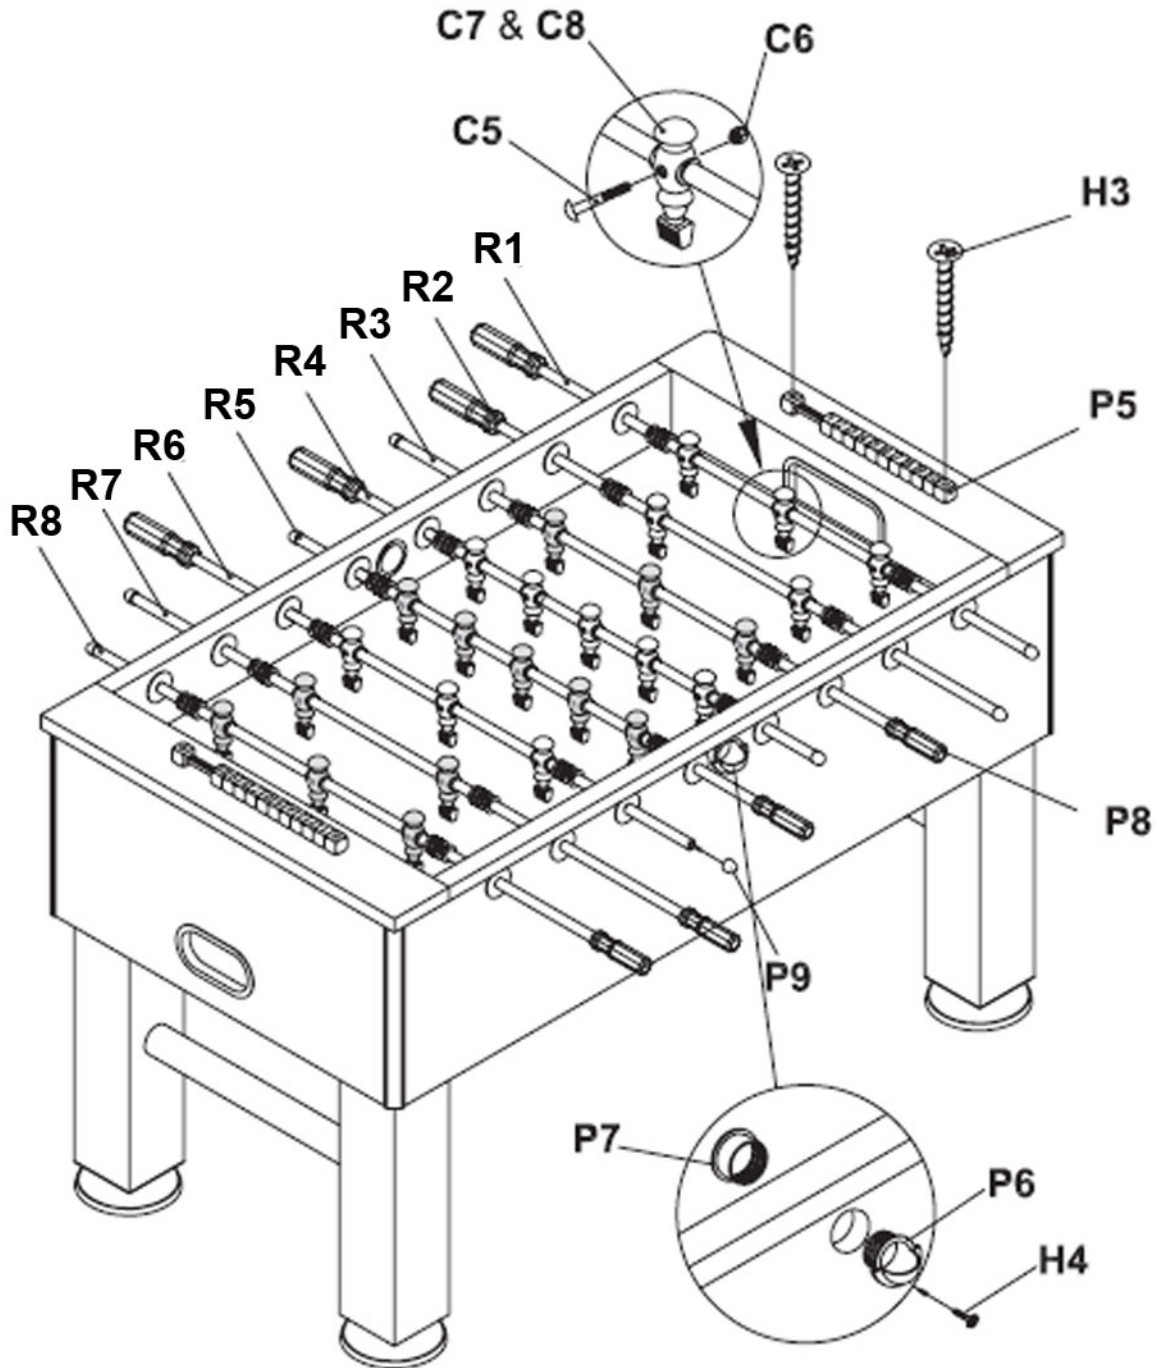

Figure 3
The completed rod assemblies R1,R2, R4 and R6, as shown in Figure 3, are all be on the same side of the table. The completed rod assemblies R3, R5, R7 and R8 are on the opposing side of the table as also shown in Figure 3. One side will use players in white. The other side will use players in black. Each rod assembly has a handle outside the table followed by parts in sequence inside the table: Plastic washer (C9), rubber bushing (C4) correct number of men for that rod, rubber busing again (C4), plastic washer again (C9). The rod then exits the other side of the table and is covered with an end cap (P9).
Take a two player rod (C3) which now has a handle on it. While holding the handle insert the other end through the first side panel only. Note this is a two player rod so this will be inserted in the second position in the table. As shown in Figure 3 this is R2 or R7.
Repeat this process for the remaining rods, keeping team colors consistent on the left and right side of the table. Follow Figure 3 for the correct rod and number of men for each position.
7. Attach the two sets of slide scorer (P5) to the end of table with screw (H3), as shown in Figure 3.